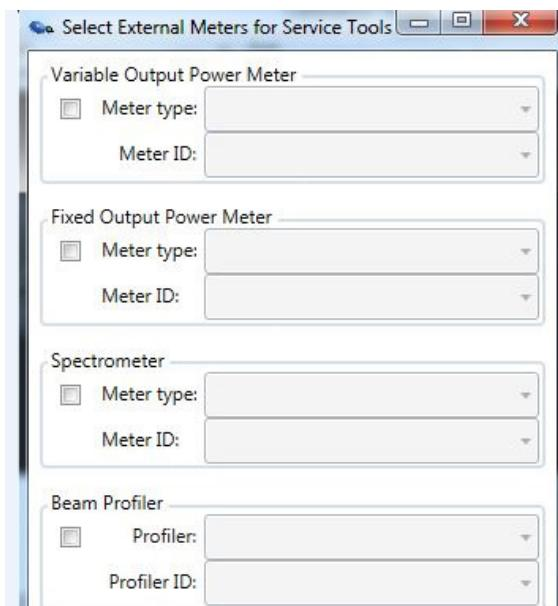

Figure 1.2-18. External Meters Menu
2. Connect the PowerMax power meter, BP209 beam profiler and WaveScan through the Service Meters menu. See Figure 1.2-18.